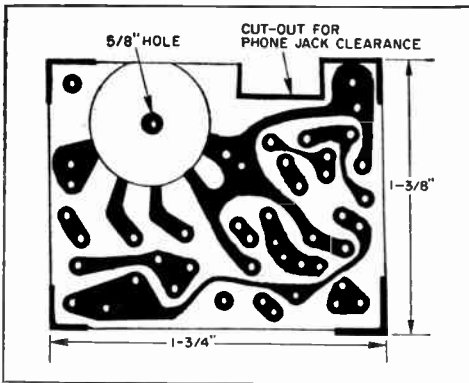

Fig. 2. Actual-size printed board. Potentiometer R9 (with S3 attached) is a printed circuit type (Lafayette 99 R 6019) and solders directly into board.
**Construction.** Layout of the printed board is shown in Figs. 2 and 3, while Fig. 4 illustrates the method of mounting used by the author. The printed board is secured to the bottom of the case with three 2-56, 1/2"-long bolts, using nuts